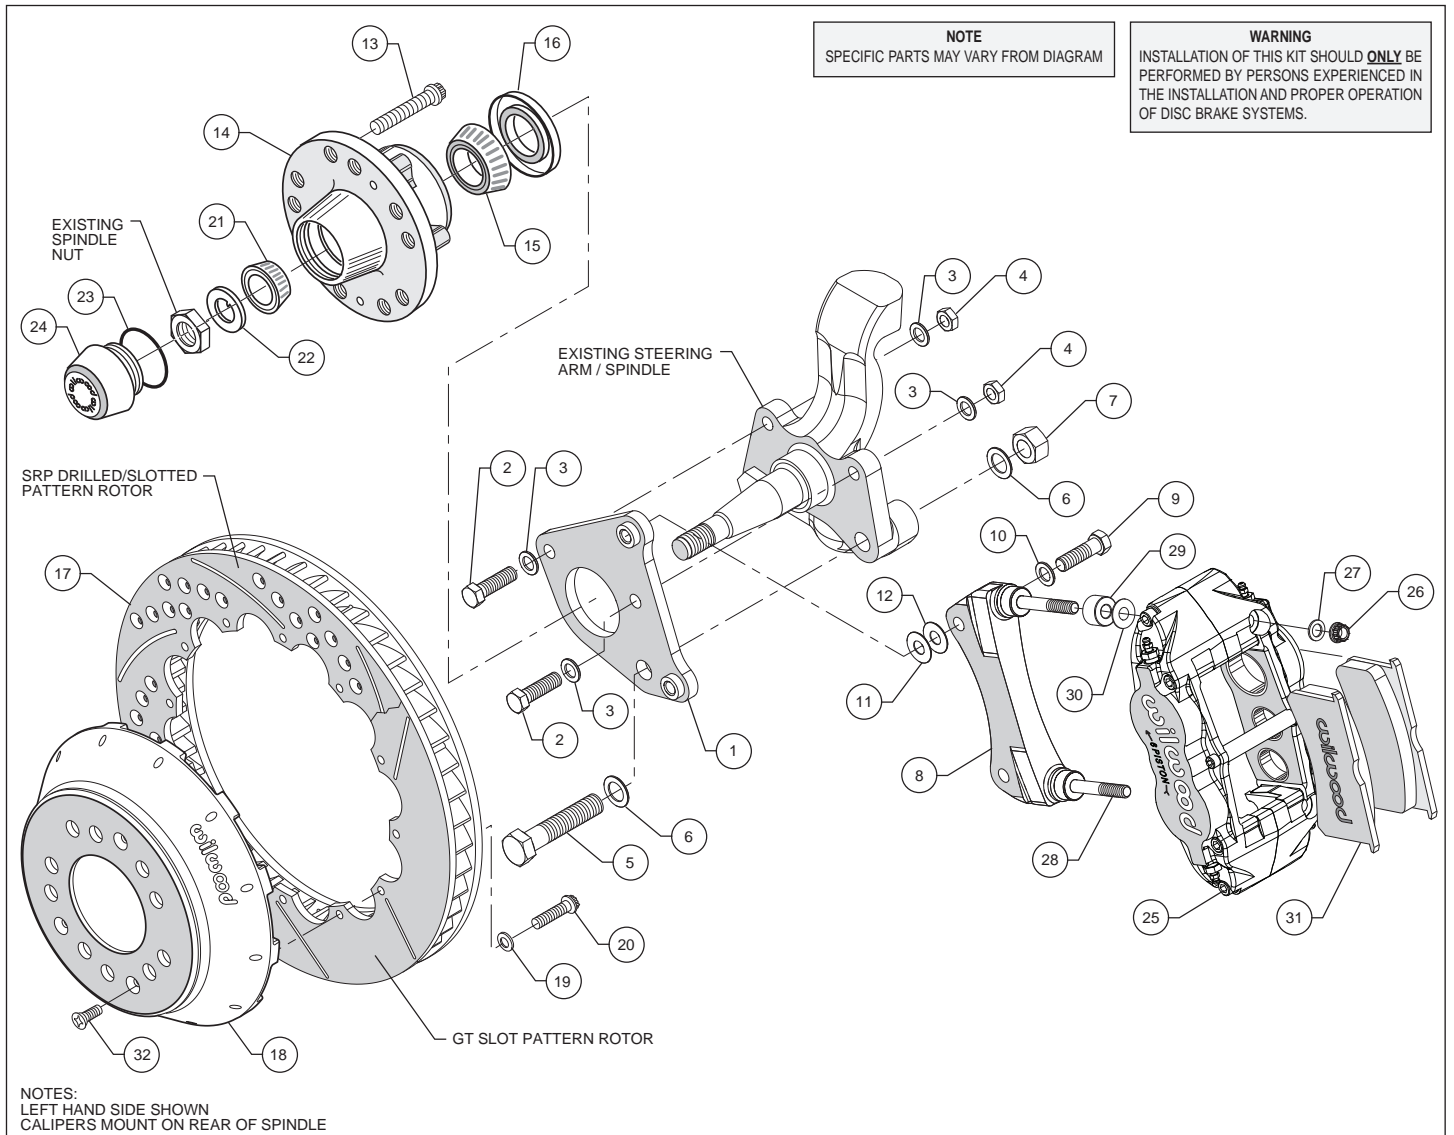
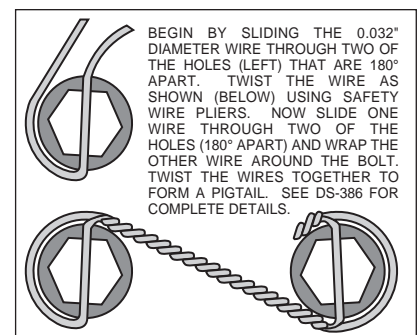

Figure 1. Typical Installation Configuration
Figure 3. Safety Wire Diagram
- Apply red *Loctite*® 271 to bolt threads (2 and 5) before assembly of the flat caliper bracket (1) to backing plate face of spindle. Install bolt (5) and washer (6) through caliper bracket (1), spindle face and the steering arm. Install another washer (6) and lock nut (7) on the rear side. Install two bolts (2) with washer (3) through caliper bracket (1), spindle face and the steering arm. Install another washer (3) and lock nut (4) on the rear side. Torque two bolts (2) to 47 ft-lb. Torque bolt (5) to 140 ft-lb. **NOTE:** Be sure the heads of the caliper bracket (1) insert nuts are facing outward toward the wheel. Reference Figure 1 as necessary.
- The radial caliper mounting bracket assembly (8) should be installed first with clean, dry threads on the mounting bolts. Install the bracket on the inboard side of the flat caliper mounting bracket (1) by sliding bolt (9) through flat washer (10), through the mounting hole in the bracket (8) and into the flat bracket (1) insert nuts. Initially place two shim washers (12) between the two brackets (1 and 8) (see figure 1). The radial bracket (8) must tighten squarely against the inboard side of the flat mounting bracket (1). Later, after the caliper, pad, and rotor alignment has been checked, and any necessary shims have been put in place, the mount bolts should be coated with red *Loctite*® 271 and torqued to 47 ft-lbs.
- Install five new wheel studs (13) into the hub (14). Torque to 77 ft-lb. **NOTE:** There are two five lug patterns in the hub (5 x 4.00 and 5 x 4.50). Make sure of the correct hole pattern for the correct wheel application before installing studs into hub.
- Pack the large inner bearing cone (16) with high temperature disc brake bearing grease (available from your local auto parts store) and install into the backside of the hub (14).
- Install the grease seal (16) by pressing into the backside of the hub (14).
- With the larger I.D. side of the rotor (17) facing away from the hat (18), bolt rotor (17) to hat (18) through the backside of the rotor using washers (19) and bolts (20). Using an alternating sequence, apply red *Loctite*® 271 to the threads and torque bolts to 155 in-lb. For an added measure of security, the bolts may be safety wired using standard 0.032 inch diameter stainless steel safety wire as shown in Figure 3.
- Pack the small outer bearing cone (21) with high temperature disc brake bearing grease. Lightly coat the spindle bearing surfaces with bearing grease. Slide the hub assembly (13, 14, 15 and 16) with outer bearing cone (21) onto the spindle. Secure using spindle washer (22), existing adjusting nut and nut locking device.
- Install the dust cap (24) onto the hub (23). Friction created by the o-ring (23) on the dust cap (24) keeps it from unscrewing. The O.D. of the existing spindle washer may be larger than the I.D. of the dust cap (24) which may allow the washer to contact the dust cap (24). Use the spindle washer (22) supplied with the kit instead of the stock washer.
- **NOTE:** *This kit contains distinct right and left hand calipers that must be mounted in a specific direction, as described below.* Lubricate the caliper mounting studs (28) with lightweight oil. Initially place two .035" thick shims (29) and one spacer (30) on each stud as shown in Figure 1. Mount the caliper (25) onto the bracket (8) using lock nuts (26) and washers (27), Figure 1. Ensure that the caliper is mounted so that the largest pistons are at the rotor exit end of the caliper, in relation to the direction of rotor rotation. Temporarily tighten the lock nuts and view the rotor through the top opening of the caliper. The rotor should be centered in the caliper. If not, adjust by adding or subtracting shims (11 and/or 12) between the radial bracket and the spindle bracket. Always use the same amount of shims on each of the two mounting bolts.
- Remove the caliper center bridge pad retainer bolt, nut, and tube from the caliper. Slide the brake pads (31) into place. They should install easily without interference. Check that the outside radius of the brake pad is flush with the outside diameter of the rotor face. Add or subtract shims (30) between the caliper and radial mounting bracket to gain the proper alignment. Reinstall the center bridge pad retainer tube, bolt, and locknut. The locknut should be snug without play in the bolt or tube. Be cautious not to over tighten.
- Once all clearances have been checked, remove the wheel, caliper, hat, and rotor from the spindle and hub. Secure the radial caliper mounting bracket (8) to the flat caliper mounting bracket (1) using red *Loctite*[®] 271. Torque the bolts to 47 ft-lbs. Reinstall the hat and rotor assembly and again use several lug nuts to hold it in place. Reinstall the caliper, torque the caliper nuts (26) to 28 ft-lbs.
- Install three flat head socket screws (32) through the small holes in the hat (18) and torque to 85 **in-lb**.